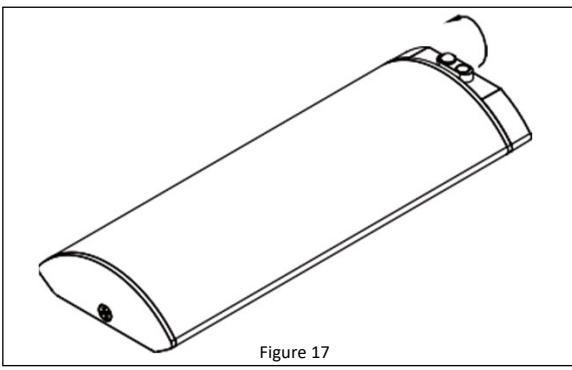

Figure 17
5. Remove the protective cap from the sensor port by rotating counter-clockwise 90° and lifting up. Install the sensor to the sensor port by aligning tabs under the sensor with the sensor port indentations, then rotate slightly clockwise. **See Figure 17.**